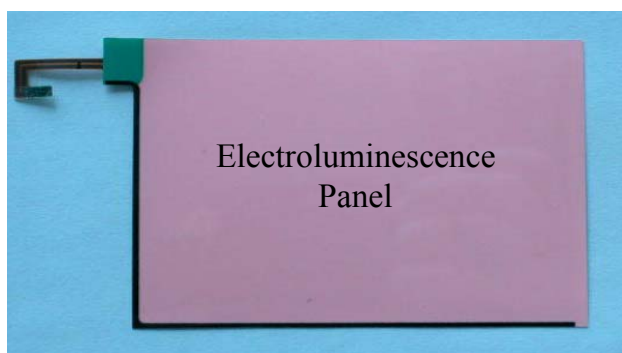

Figure 3: Electroluminescent Panel (ELP)
Electro Luminescent (EL) backlights use a solid state phenomenon based on coloured phosphors to generate light when an AC voltage is applied to the EL panel. EL backlights are very thin, lightweight and provide an even distribution of light, without the need of a light-guide (*Figure 3*).